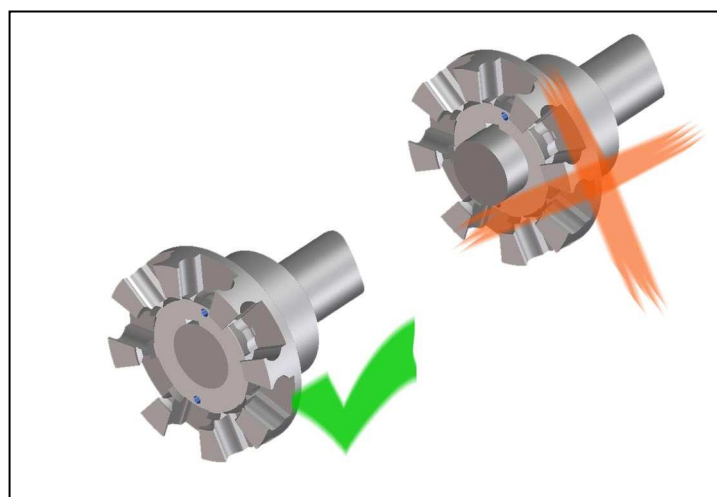

Fig. 5
- Mount the hubs in such a manner that the shaft ends are flush with the inner bore openings (Fig. 5). Observe deviant agreements, which may exist!